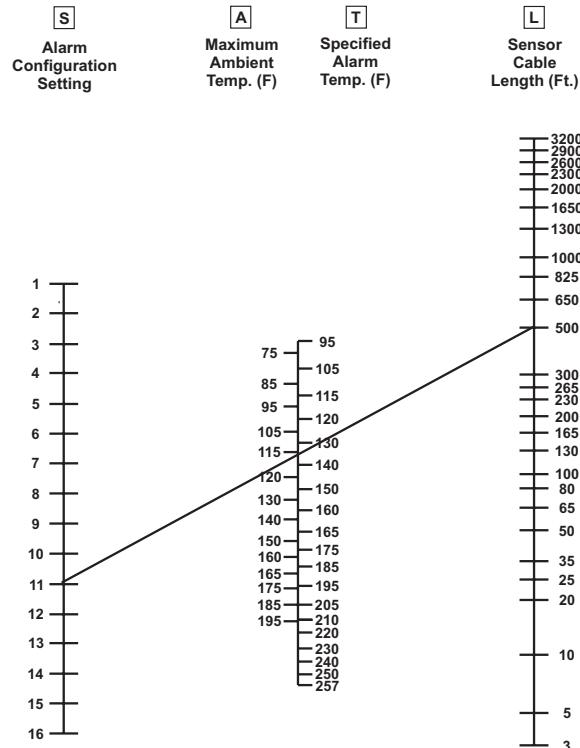

Figure 2. Example for Type "T" Cable (Feet/Fahrenheit)
**Note:** The maximum length of sensor cable per zone depends on the maximum ambient temperature defined on the nomogram(s) (See Figures 2 and 3). Regardless of ambient temperature, however, the maximum length of cable is 3280 feet (1000 meters) per zone for Type "T" cable.